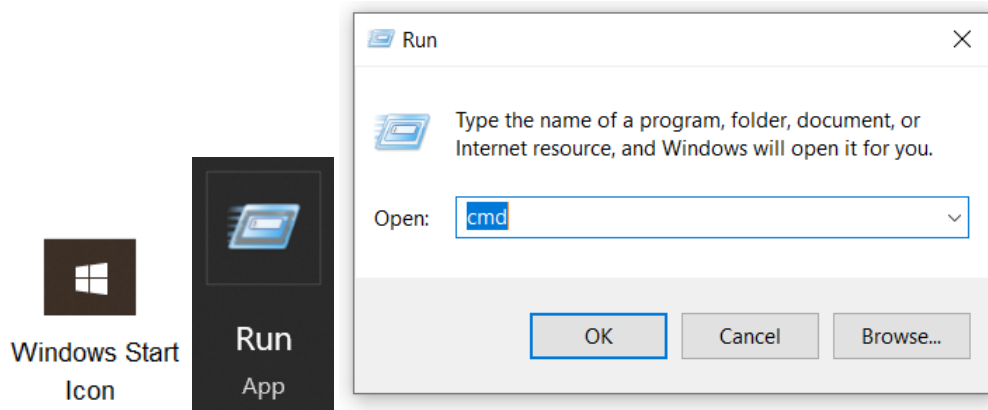
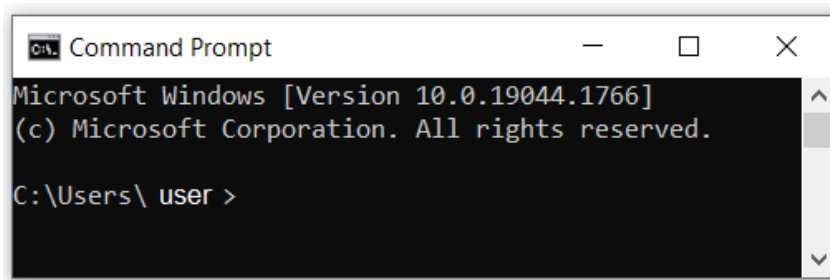
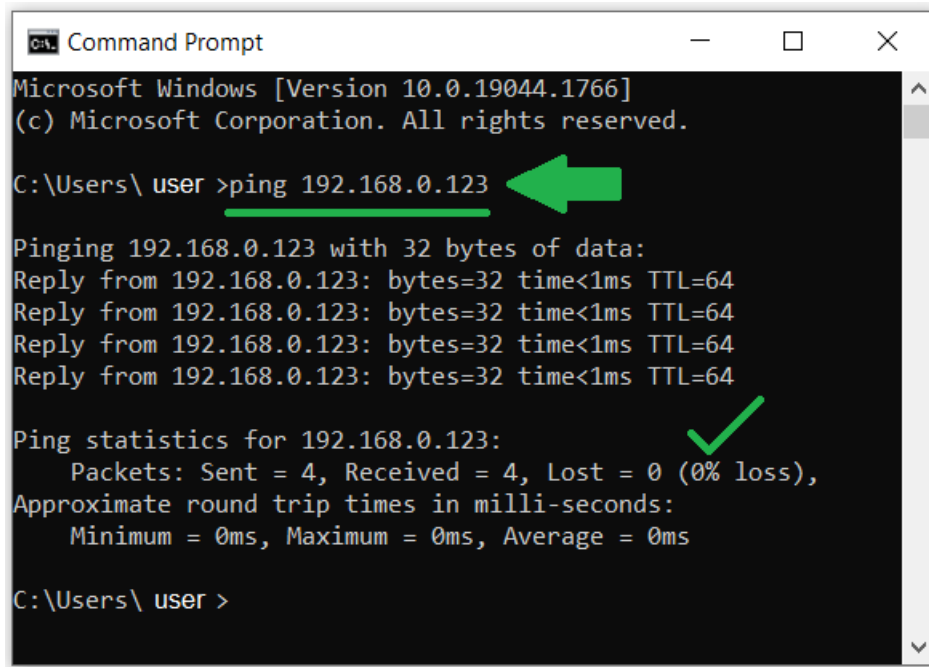

Figure 1.2 Enter "cmd" command in "Start" - "Run"
Figure 1.3 Enter “cmd” and press “Enter” and enter the “ping 192.168.0.123” command
Figure 1.4 Enter the “ping 192.168.0.123” (replace underlined with your IP address recorded in step 2.2.1) command and press “Enter” to connect the network
- b. In WINDOWS, press: Start-Run-cmd (figure 1.2) then you will see (figure 1.3), enter "**ping IP address recorded in step 2.2.1**" and press enter to determine if the network is open (figure 1.4) you will see "0% loss" and you can continue to Step 2.3.